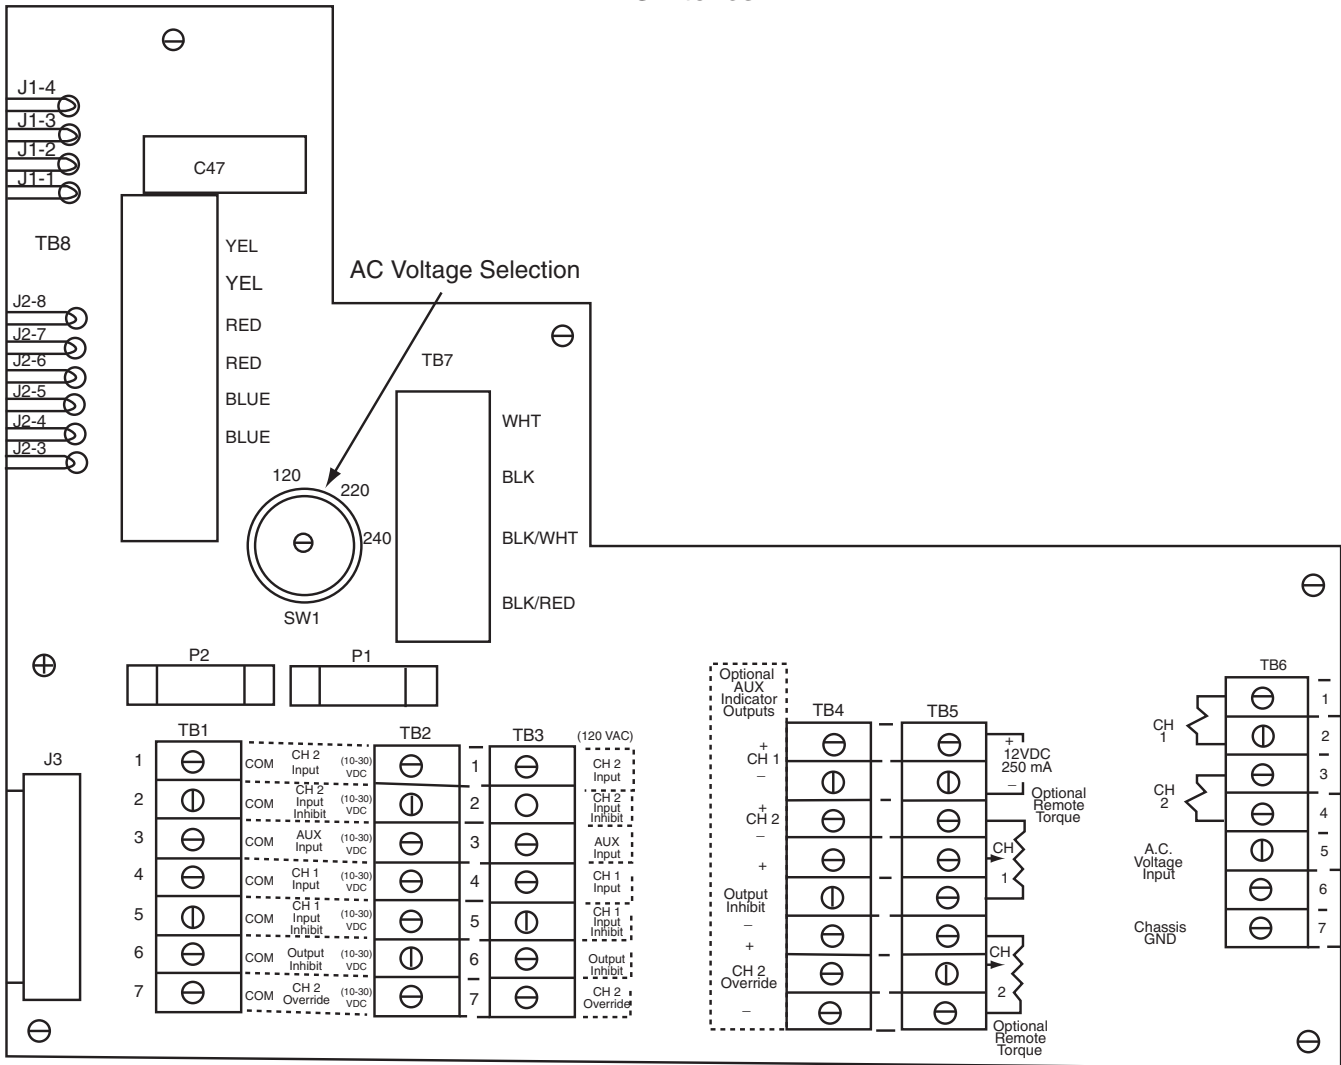

Figure 7 - Terminal board Overview - Inside
- 4. Set the AC input power selector switch SW-1 for the proper AC input level. Refer to Figure 7, Page 10 for location of switch SW1, which is also diagrammed below.
All inputs shown are connected to the Channel 2 Input. The other input connections are identical to those of Channel 2 Input. The (X) designation noted below refers to any one of terminals 1-7 of the appropriate terminal strip, depending on the function being used. See Figure 7, Page 10 to determine the terminals to be used, which depend on function and setup.